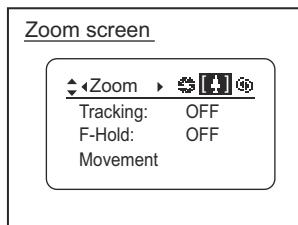

Fig1-7
5. Zoom screen (See Fig. 1-7 below)